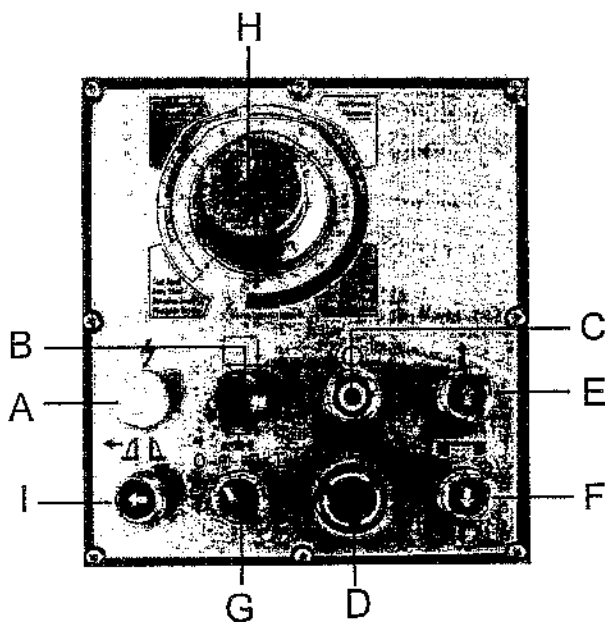

Fig. 2
## Controls - figure 2
device may need to be readjusted. If the power indicator light (A - Fig. 2) is not on, the shut-off switch has not been properly set. To adjust, follow these steps:
4. Press the start button to see whether the power indicator light (A - Fig. 2) turns on. If not, readjust again.